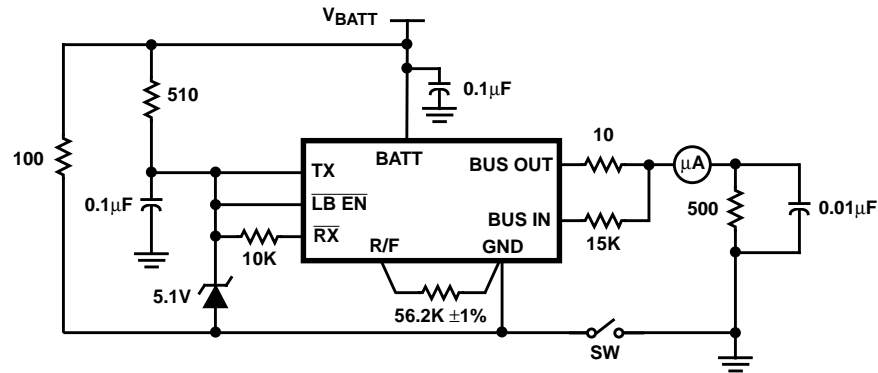

FIGURE 3. LOSS OF GROUND LEAKAGE TEST CIRCUIT
All voltages are measured with respect to ground and the T_A Range of $-40^{\circ}C$ to $125^{\circ}C$ shall not be exceeded during test unless otherwise specified. For test detail, refer to the Block Diagram, Figures 3 and 4 Test Circuits and Figures 5 and 6 Waveforms.
$9.0V \leq V_{BATT} \leq 16V$; $R_S = 56.2k\Omega \pm 1\%$; except as noted, $R_{BS} = 500\Omega$ to 1500Ω and $\tau = R_{BS}C_{BS} = 5\mu s$. All voltages are measured with respect to ground and the T_A Range of $-40^\circ C$ to $125^\circ C$ shall not be exceeded during test unless otherwise specified. For test detail, refer to the Block Diagram, Figures 3 and 4 Test Circuits and Figures 5 and 6 Waveforms. (Continued)
- Loss of Ground refers to loss of module (node) Ground which results in a voltage between the Battery and IC Ground of less than 0.8V. For voltage between Battery and Ground above 0.8V, the Transceiver Bus Output may become active. The module circuit in Figure 3 is used to measure the Loss of Ground leakage.